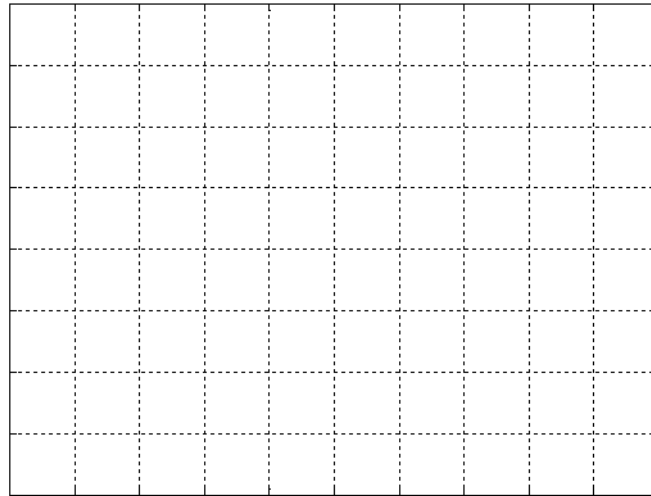

Figure 14. Graph Axis for recording the results from Experiment 3.
10. Click the Step Response Data Button, and use the axis provided in Figure 14 to sketch the 3 graphs displayed on the screen of the Step Response Results tab. (Ensure you label each of the three sketches)
Lab Q3: From your results in Table 5 and Figure 14, comment on how changes in the mass of the upper plate affects the system response.